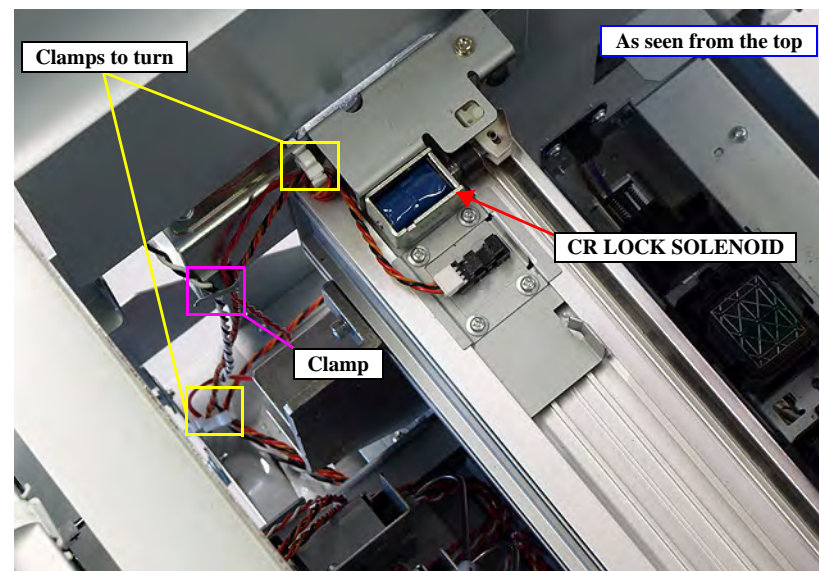

Figure 4-115. Releasing the cable
- When routing the cable, make sure to give it one turn around the marked clamp. See Figure 4-115.